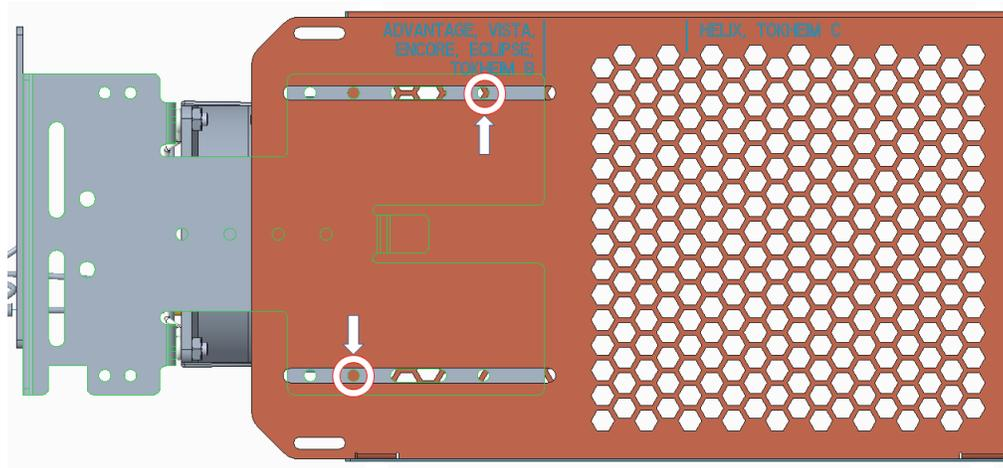

Figure 30
- 3) Insert and tighten two of the thread forming 006-8626667 screws at the locations shown in Figure 30 to secure the wire guard (497-0522796) to the NCR heater assembly.